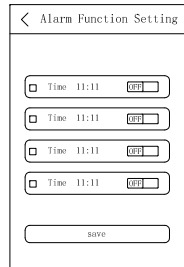

Fig. 11
c. Press the three-point icon at the top-right corner to set timer for the alarm function (as shown in Fig. 11). After completing the timer setting, press "Save" to save all the settings.